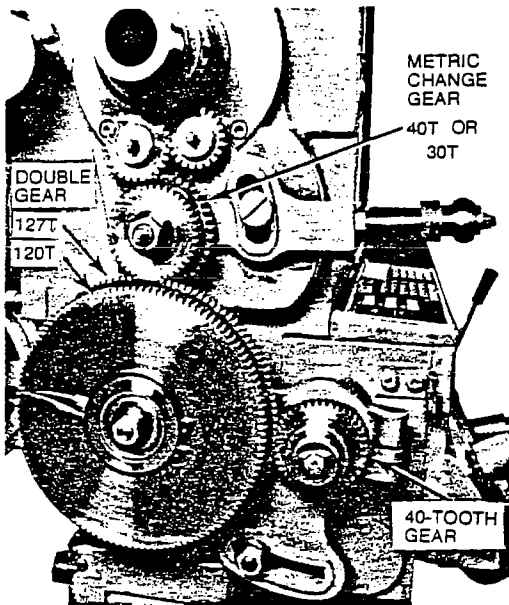

FIGURE 27
1. Pick desired threads (see data plate charts). End gear setting (Figure 27) must correspond to black diagonal of data plate.